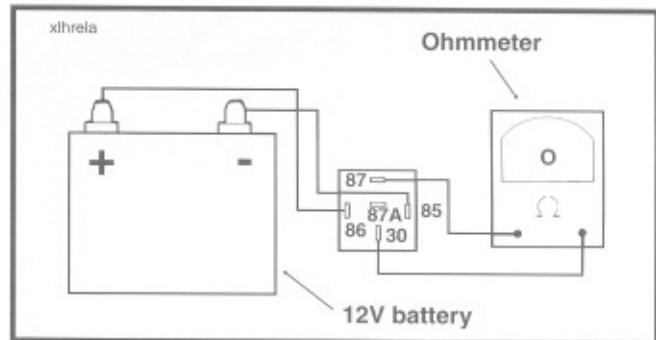

Figure 5-3. Starter Relay Test
4. See Figure 5-3. Obtain a 12 volt battery and a continuity tester or ohmmeter. Connect the battery leads to the 86 and 85 terminals to energize the relay. Check for continuity between the 30 and 87 terminals. A good relay shows continuity, continuity tester lamp “on” or a zero ohm reading on the ohmmeter. A malfunctioning relay will not show continuity and must be replaced.